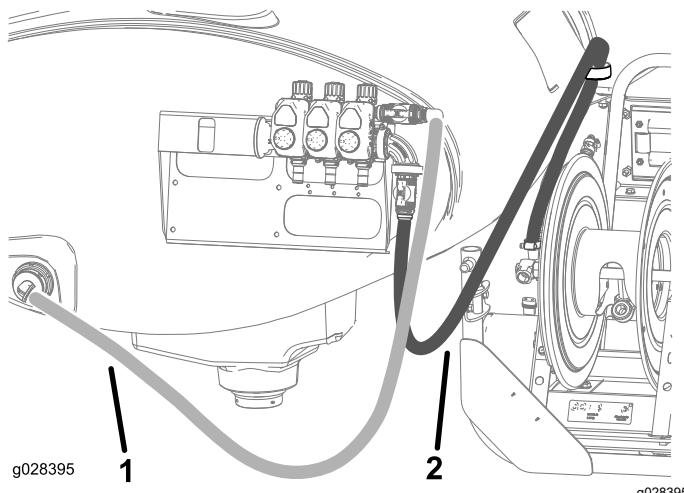

Figure 24
- 17. Route the hose-reel supply hose as shown in Figure 24 and attach it to the hose reel with a hose clamp.